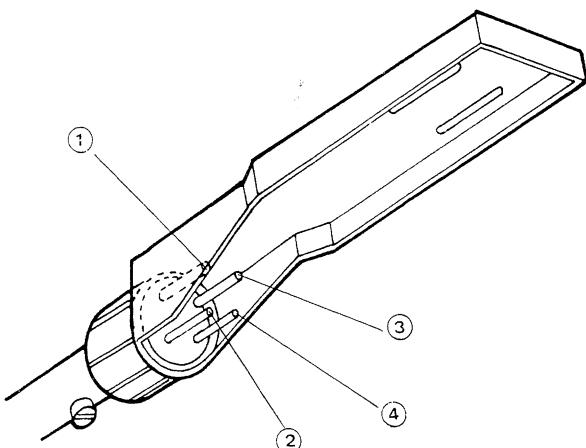
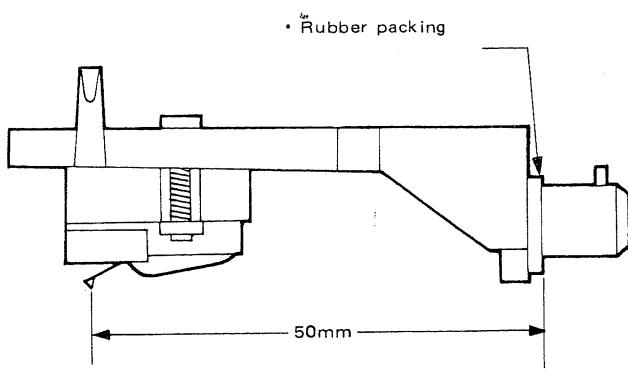

Figure 12
Figure 13
2. Connect the wires between the head-shell and cartridge. (Refer to figure 12)
① Left hot tip (White)
② Left earth (Blue)
③ Right hot tip (Red)
④ Right earth (Green)
3. Make the distance 50 mm from the stylus end to the rubber packing on the head-shell. (Refer to figure 13)